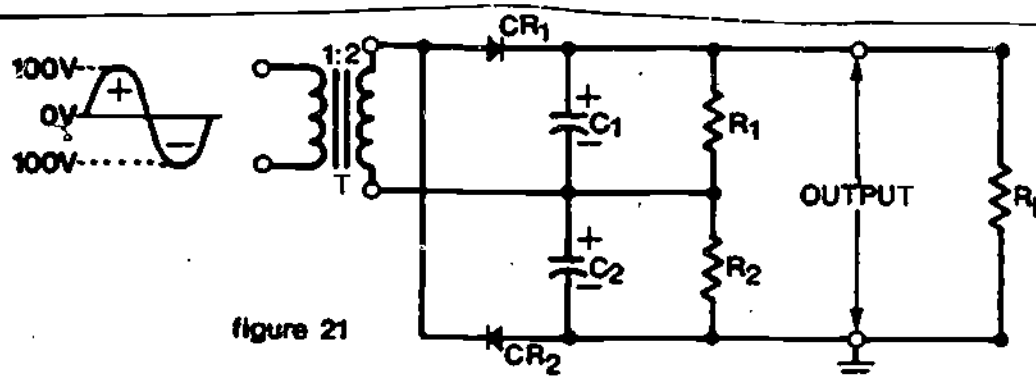

figure 21
The questions which follow depend on your understanding of the circuitry shown in Figure 21. Study the schematic before attempting the questions.
1. The schematic shown in Figure 21 is that of a _____.